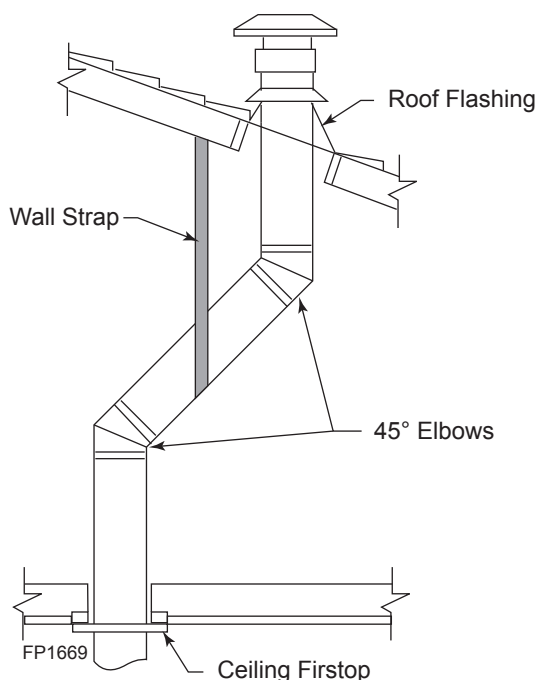

Figure 22 - Offset with Wall Strap and 45° Elbows
1. Determine the route your vertical venting will take. If ceiling joist, roof rafters or other framing will obstruct the venting system, consider an offset. Refer to Figure 22 to avoid cutting load bearing members.
NOTE: If an offset is needed to avoid obstructions, you must support the vent pipe every three (3) feet. Use wall straps for this purpose. Figure 22. Whenever possible, use 45° elbows instead of 90° elbows. The 45° elbow offers less restriction to the flow of the flue gases and intake air.